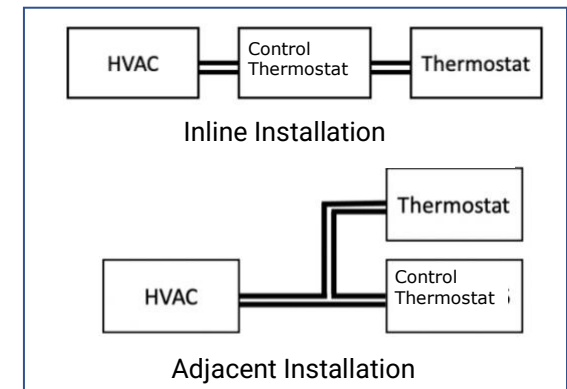

Figure 1. Installation options
2. Select between inline or adjacent installation, see Figure 1 for more details.